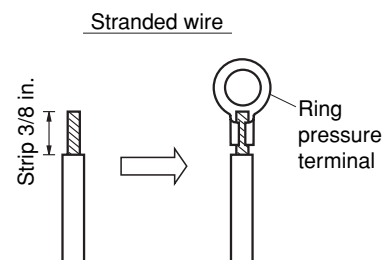
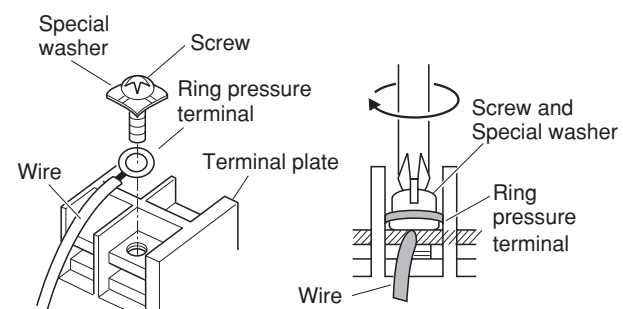

Fig. 5-5
Fig. 5-6
- (1) Cut the wire end with cutting pliers, then strip the insulation to expose the stranded wiring about 3/8 in. and tightly twist the wire ends. (Fig. 5-5)
- (2) Using a Phillips head screwdriver, remove the terminal screw(s) on the terminal plate.
- (3) Using a ring connector fastener or pliers, securely clamp each stripped wire end with a ring pressure terminal.
- (4) Place the ring pressure terminal, and replace and tighten the removed terminal screw using a screwdriver. (Fig. 5-6)